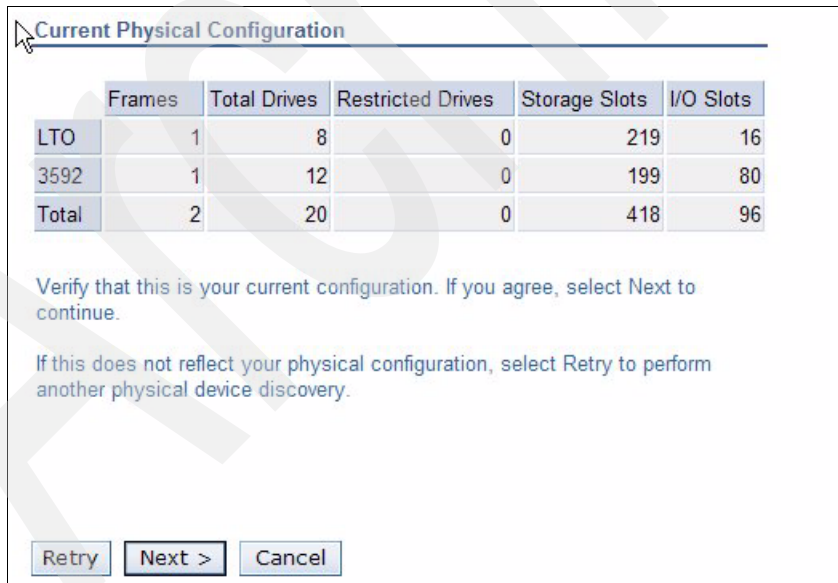

Figure 2-31 Current physical configuration
- The library starts its configuration discovery, which can take several minutes. The current configuration is displayed. Check that the displayed configuration matches the real configuration (Figure 2-31). If not, then stop here and try the configuration discovery again. If the problem is still not solved, call your service representative.